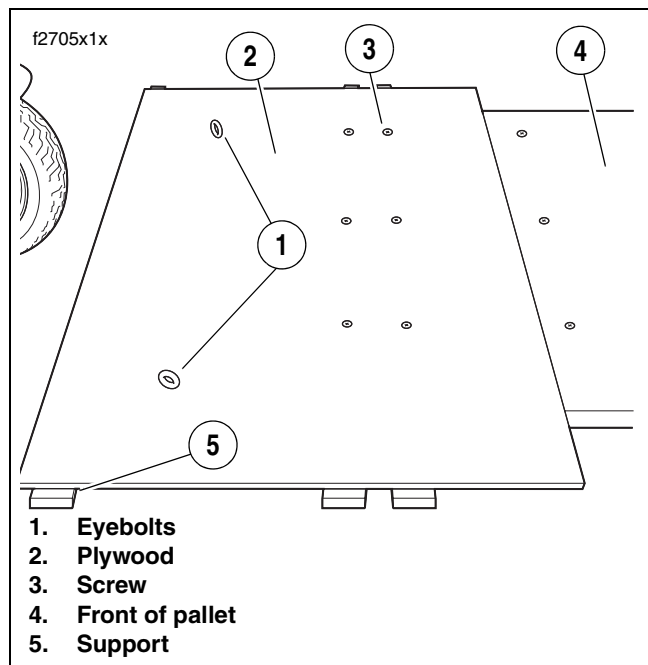

Figure 1. Eye Bolts
See Figure 1. When removing the Tri Glide from the pallet, **do not remove eye bolts** (1) and screws (3) securing plywood (2) to pallet. The plywood overhangs the back of the pallet. Place wood or other suitable material under overhang to support (5). Verify that plywood is secured to pallet before backing vehicle off. If eyebolts and screws are removed before removing vehicle from pallet, plywood may shift and cause damage to vehicle. It is acceptable to roll rear wheels over eye bolts.